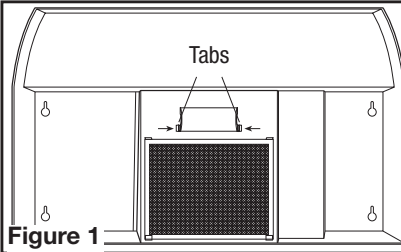

Figure 1
3. Remove lamp cover by squeezing the two tabs together (Figure 1).
3. Enlever le couvercle de lampe en pressant les deux onglets ensemble (Figure 1):